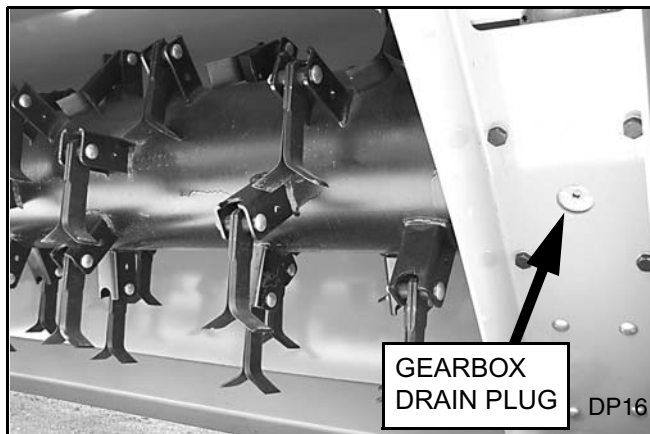

Figure 30. Drain Plug (Underside of Unit)
5. Place a pan under drain plug. Remove drain plug and dipstick plug (see Figure 30).